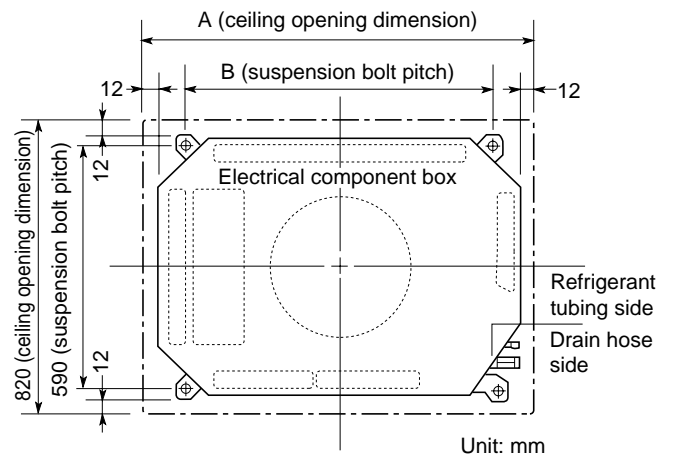

**Fig. 3-33**
- (1) Fix the suspension bolts securely in the ceiling using the method shown in the diagrams (Figs. 3-33 and 3-34), by attaching them to the ceiling support structure, or by any other method that ensures that the unit will be securely and safely suspended.